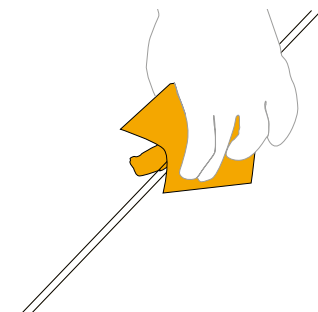

fig. 8
- when dry, remove the plexiglass slide. The resulting surface will be similar to the Polished surface, for Matte/Opaque finishes, lightly sand (fig. 8).